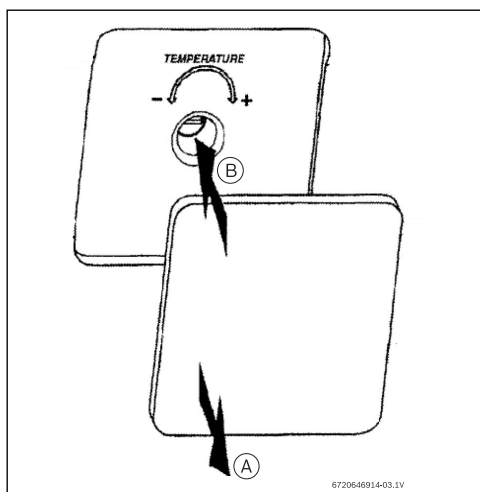

Fig. 7 Temperature adjustment spindle
If the required temperature is different from the factory setting, turn the Adjustment Spindle (Fig. 7 ) until the outlet temperature is correct.
- ▶ Remove nameplate in direction of Arrow A (Fig. 7 ).
- ▶ Adjust the temperature setting using a screwdriver on the spindle as shown by arrow B (Fig. 7 ).